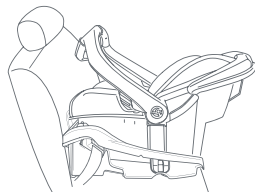

Fig. 55-1
- 1. Safety Seat with Base:** Make sure the vehicle is parked on level ground. Lock the Safety Seat onto the Base and check that the Safety Seat is level side to side on the vehicle seat (Fig. 55-1). Check the Seat Angle Indicator that matches the weight of your child.